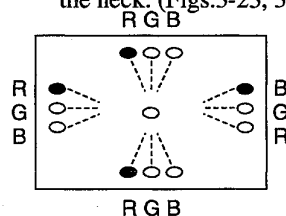

Fig. 3-23
3. The following patterns cannot be corrected by turning the neck. (Figs.3-23, 3-24, and 3-25)